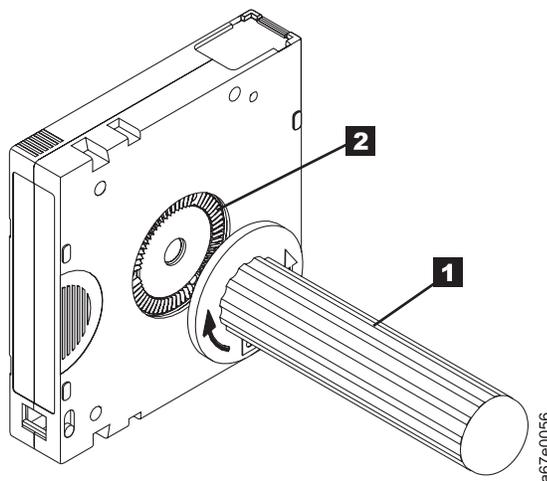

Figure 43. Rewinding the tape into the cartridge
5. To rewind the tape, insert the cartridge manual rewind tool (**1** in Figure 43) into the cartridge's hub (**2**) and turn it clockwise until the tape becomes taut.